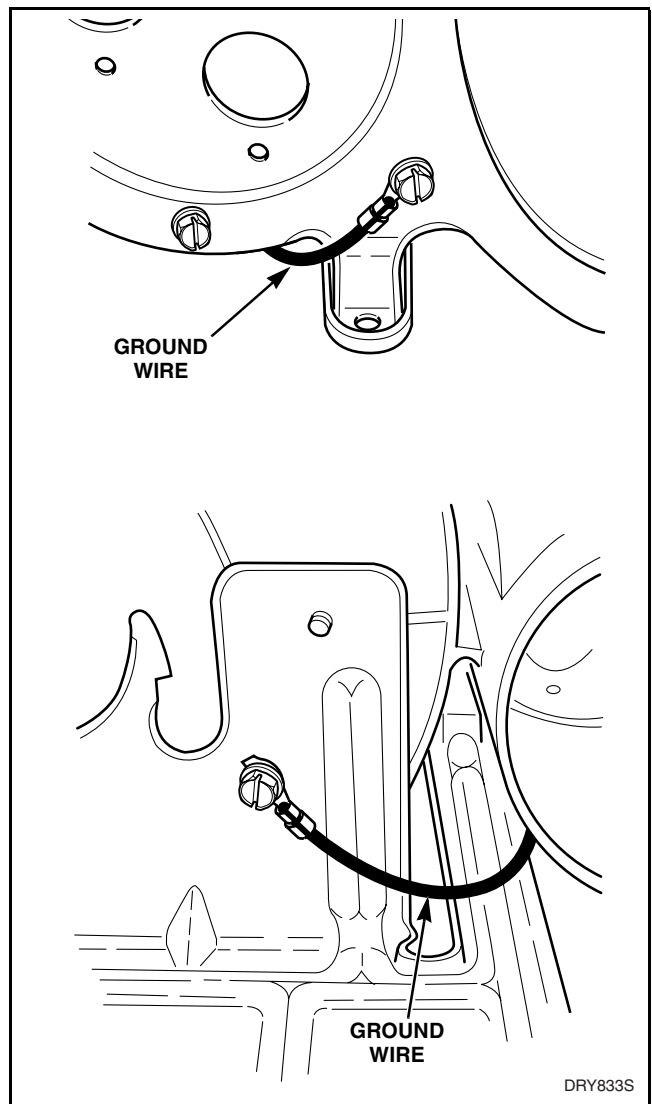

Figure 2
2. MOTOR MOUNTING BRACKET TO BLOWER HOUSING COVER PLATE (Gas and Electric Models - with painted Exhaust Fan Cover) Refer to *Figure 2* (Ground wire not used on unpainted covers)